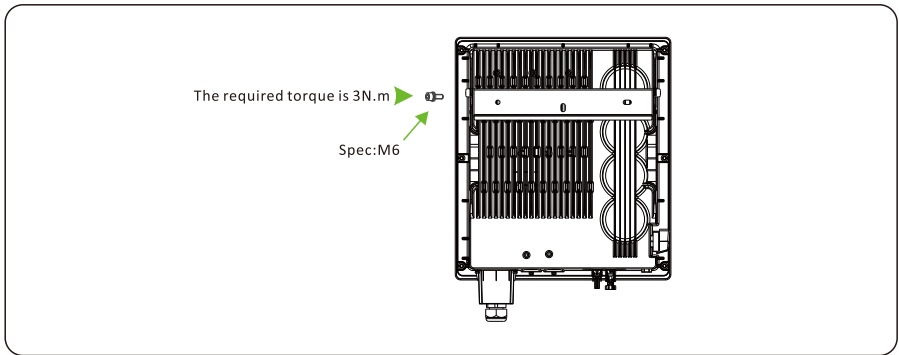

Figure 4.14 Securing the inverter
Step 2 Mount the inverter on the rear panel and keep them aligned with each other, as shown in Figure 4.14.
Step 3 Tighten the two hexagon screws at the both sides of the inverter to a torque of 1.2N.m and 3N.m respectively, as shown in Figure 4.14.